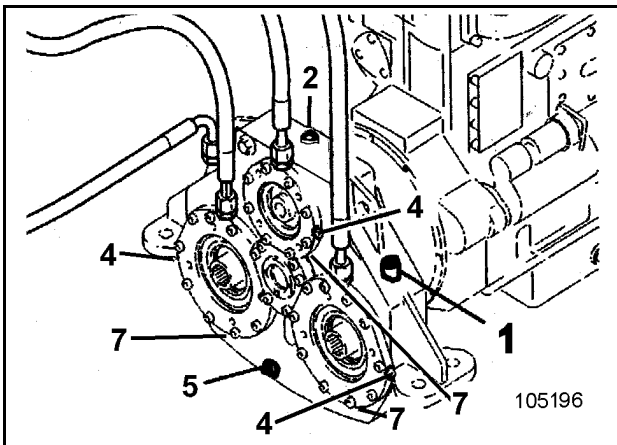

Fig. 3-109
- Unscrew plug (7, Fig. 3-109) and drain off oil.
- Screw plug (7) back in place.